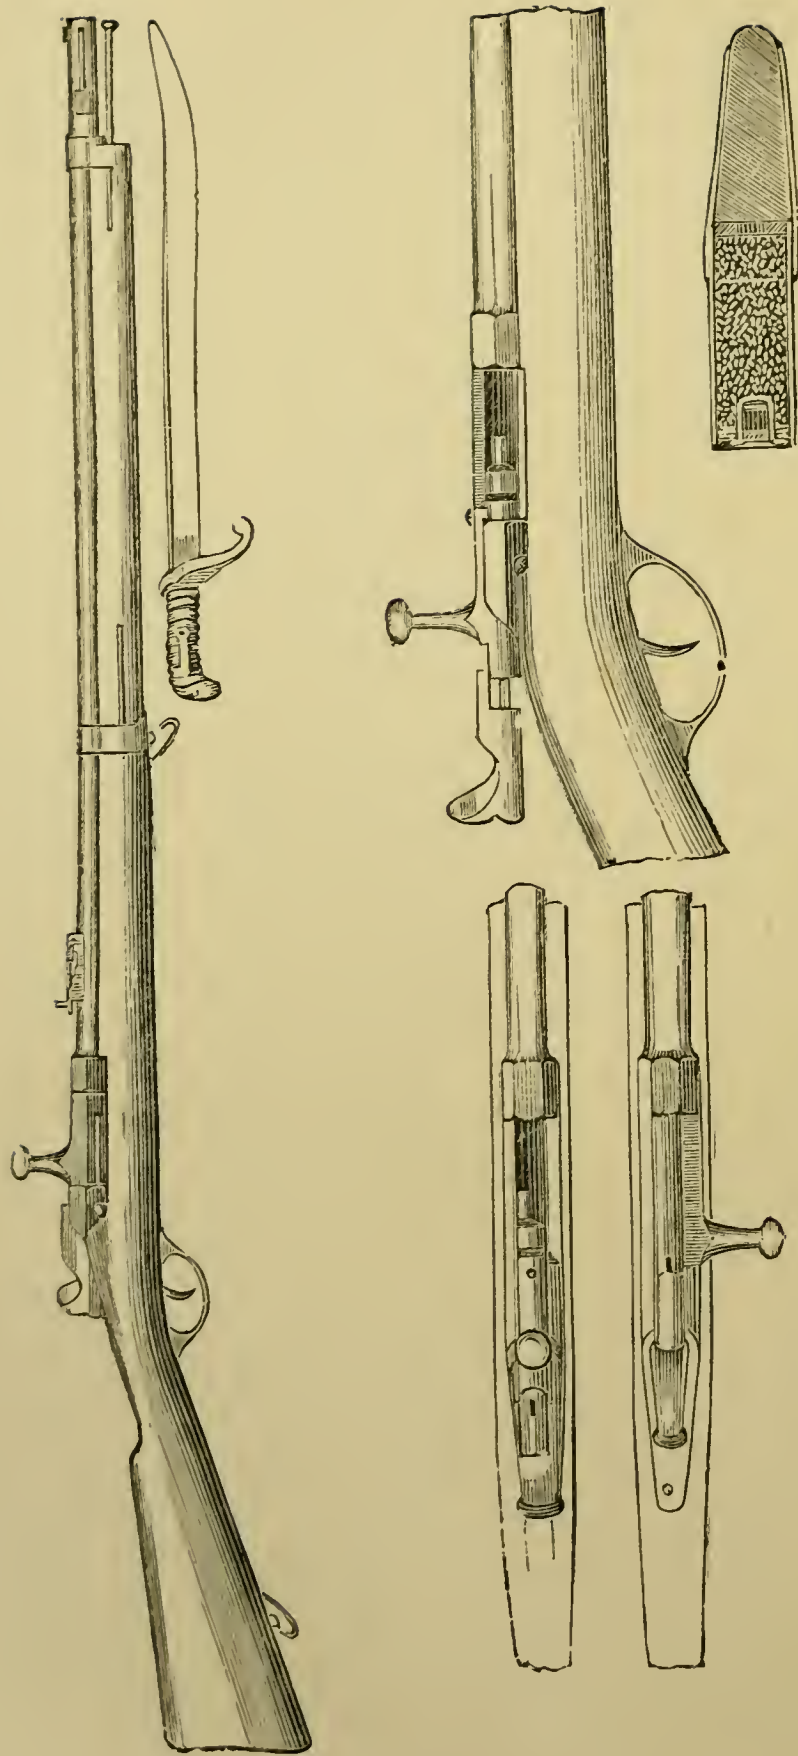

Fig. 95. —The French Chassepot.
This arm is, in principle, the same as the Prussian needle-gun, but is certainly an improvement both in the action and barrel. The piece is cocked by the thumb, as is the needle-gun; the bolt is then turned one-quarter of a circle to the left and drawn back; the cartridge is put in and pushed home by the bolt; this bolt is turned back one-quarter of a circle to the right; the piece is then ready for firing. It is loaded when at full cock. To put the rifle at half-cock, the bolt must be turned only about one-eighth of a circle. To do this the trigger must be gently pulled, which will allow the cocking arrangement to enter a slot in the bolt-plunger. This movement effectually locks the breech-action, and answers the purpose of a safety bolt. It can only be fired by bringing it to full cock with the thumb and turning the bolt completely down. The point of the bolt enters the barrel, and is fitted with an india-rubber washer, which partially prevents the escape of gas. Fig. 95, page 182, represents this rifle, with the breech-action in separate parts; also the cartridge, which is differently constructed to that of the needle-gun, the ignition being placed in a percussion cap near the base. The needle enters the cap, which is so placed that the opening is towards the breech arrangement, thus the needle strikes the inside of the cap instead of the outside. The great improvement in the Chassepot is the barrel, which is a small-bore (434), made of steel, and takes the large charge of 85 grains, and a solid conical bullet (weighing 380 grains). The extreme range is 1,800 yards; the weight of the rifle complete with the sword bayonet is 11 lbs.